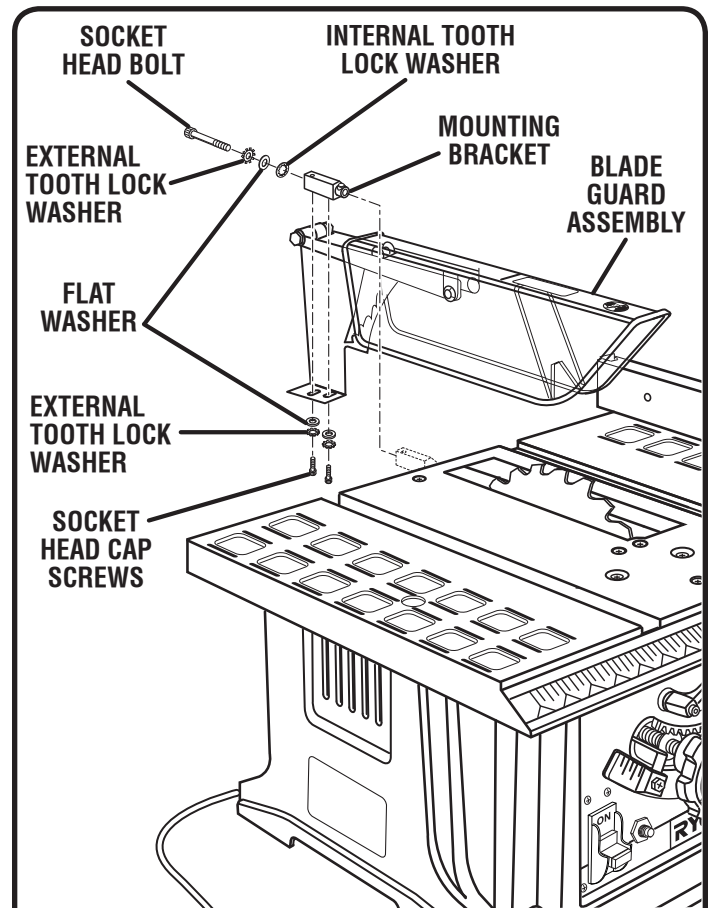

Fig. 10
See Figure 10.
- Attach the blade guard assembly to the mounting bracket using the socket head cap screws, flat washers, and external tooth lock washers as shown in figure 10.